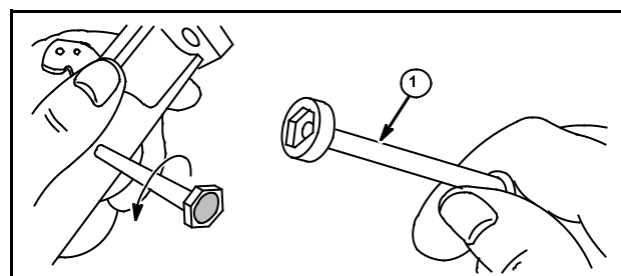

Fig. 88
Thread fuel pick-up tube into carburetor body using a 9/16" wrench or socket (1), Fig. 88. No sealant is required on threads.